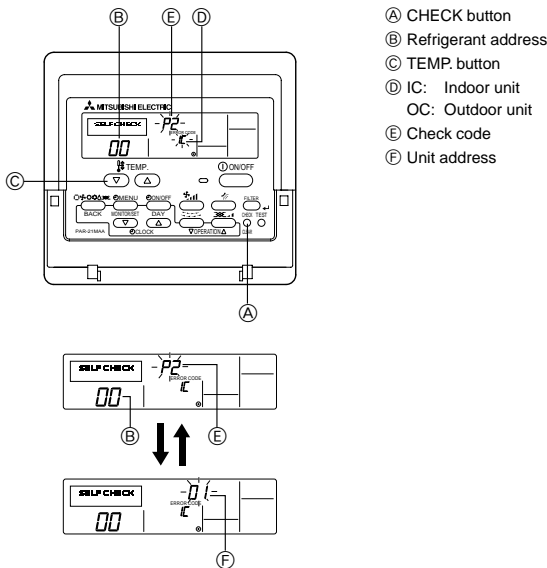

Fig. 7-2
7.3. Self-check (Fig. 7-2)
- ① Turn on the power.
- ② Press the [CHECK] button twice.
- ③ Set refrigerant address with [TEMP.] button if system control is used.
- ④ Press the [ON/OFF] button to stop the self-check.